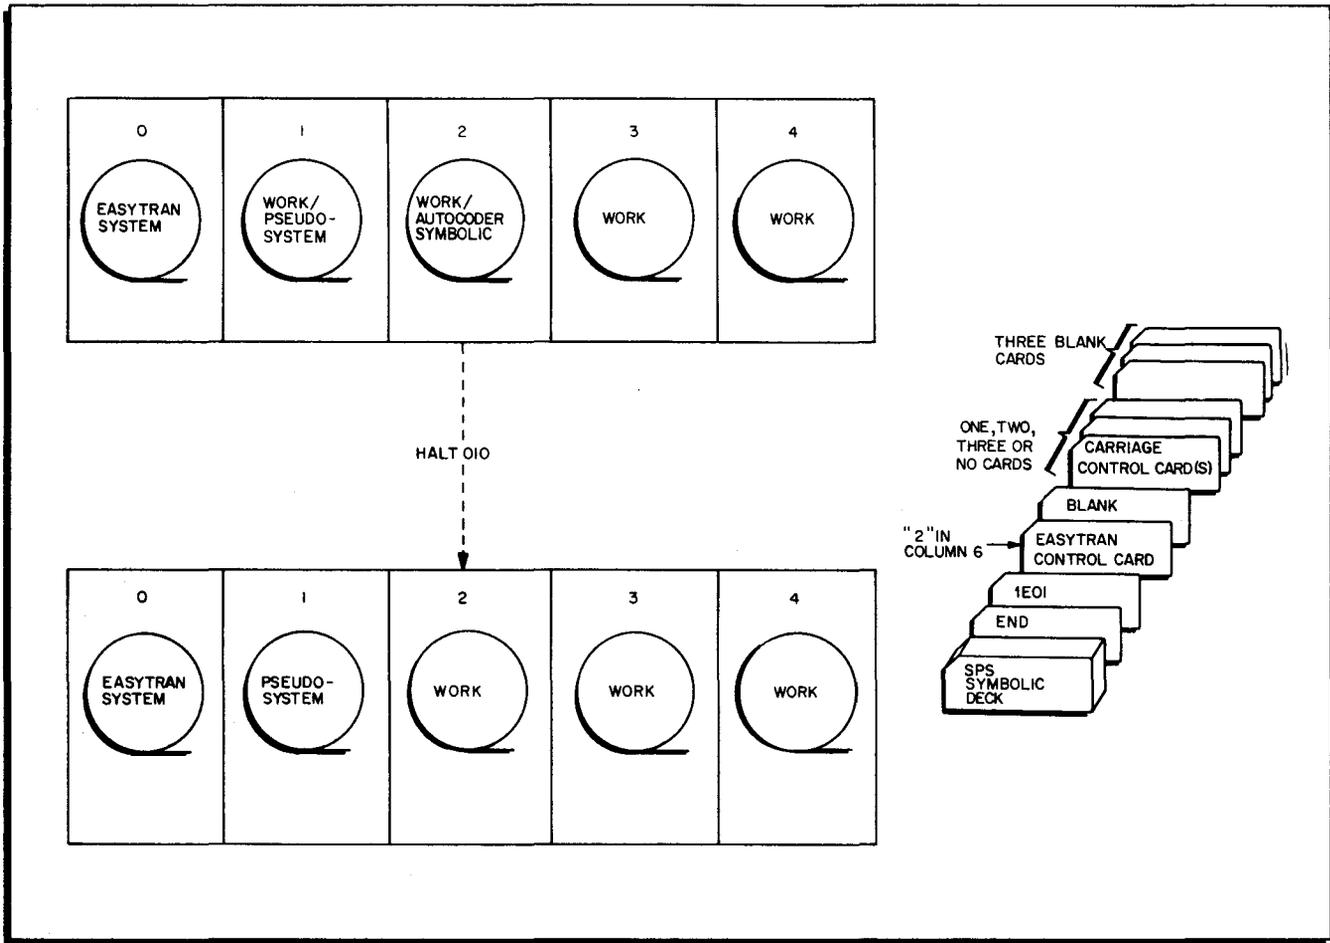

Figure 7. Five-Tape System — Tape Manipulation and Card Input for SPS Conversion from Cards
Five-Tape System: SPS Conversion from Cards (Figure 7)
1. Make up the Easytran load deck as shown in Figure 7; load the card reader.